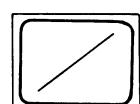

Fig. 6
Adjust screw (B) shown in fig. 3 so that pointers of the two VTVMs swing to maximum and a lissajous waveform as illustrated in fig. 6 is obtained on the oscilloscope.